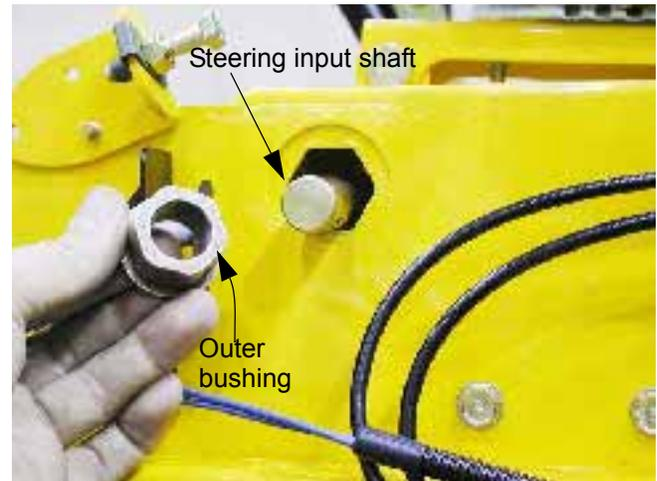

Figure 12.7
- 12.7. Remove the outer bushing, and push the inner bushing out of the hexagonal hole that it resides in. See Figure 12.7.